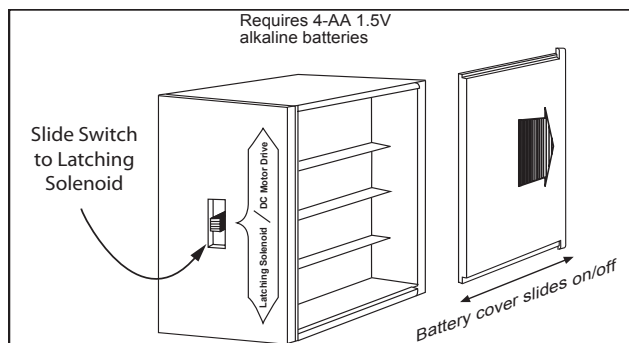

Figure 6. Slide switch on latching solenoid
4. Install the (4) AA batteries in to the battery compartment shown in figure 5. Double check to ensure the slide switch is in the Latching Solenoid position on the battery pack. Then snap cover plate in place as shown in fig.6.